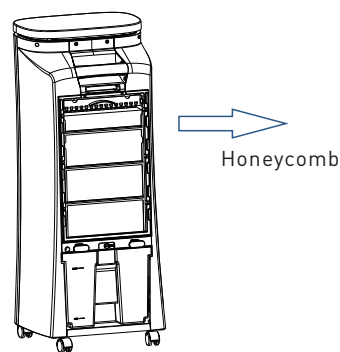

Fig 2
2. Take out the honeycomb and clean it with the rear net(Fig 2).